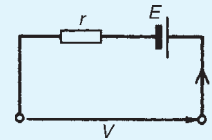

Figure 13.90
- For the circuit shown in Fig. 13.90, the internal resistance r is given by: